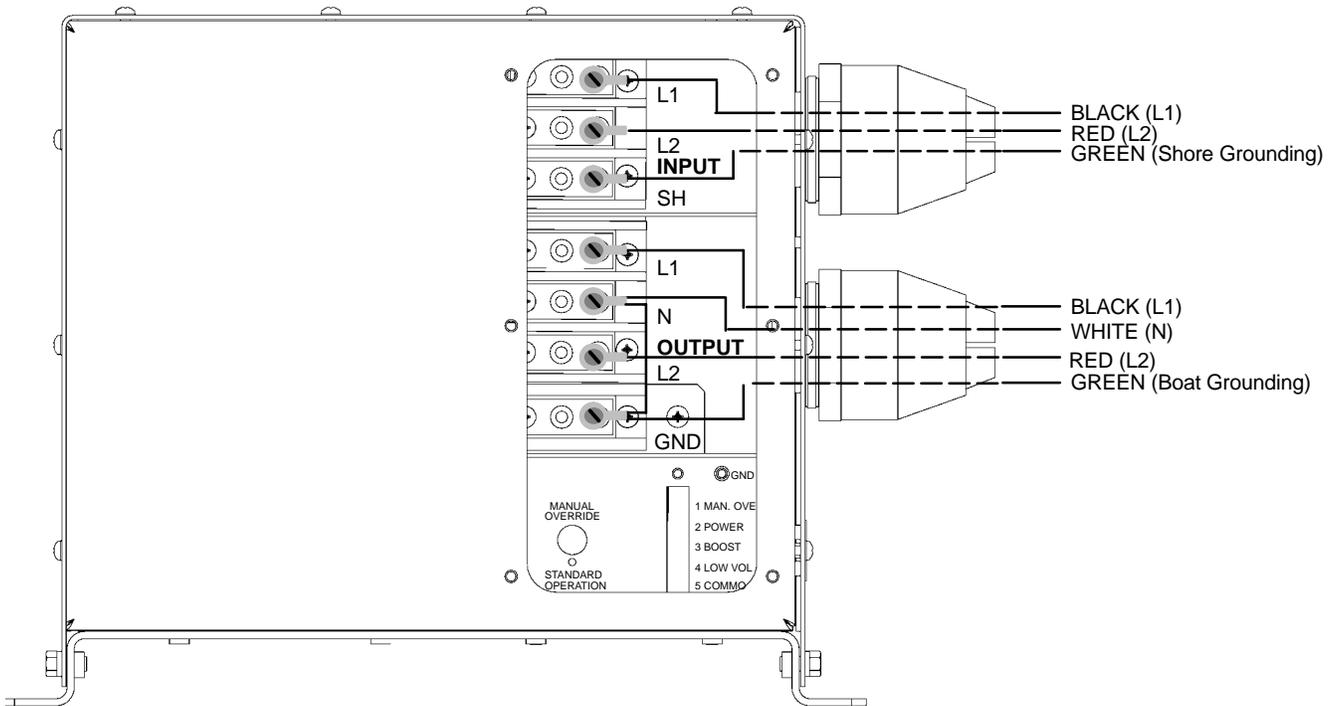
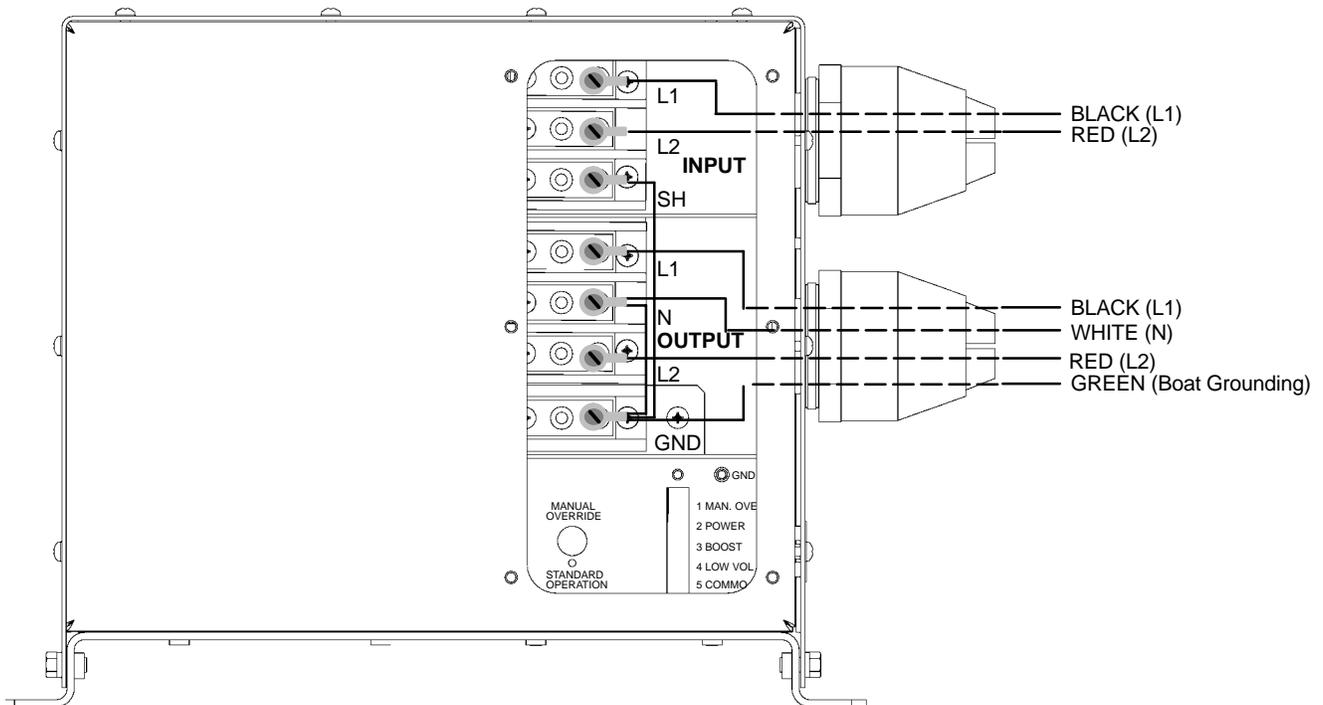
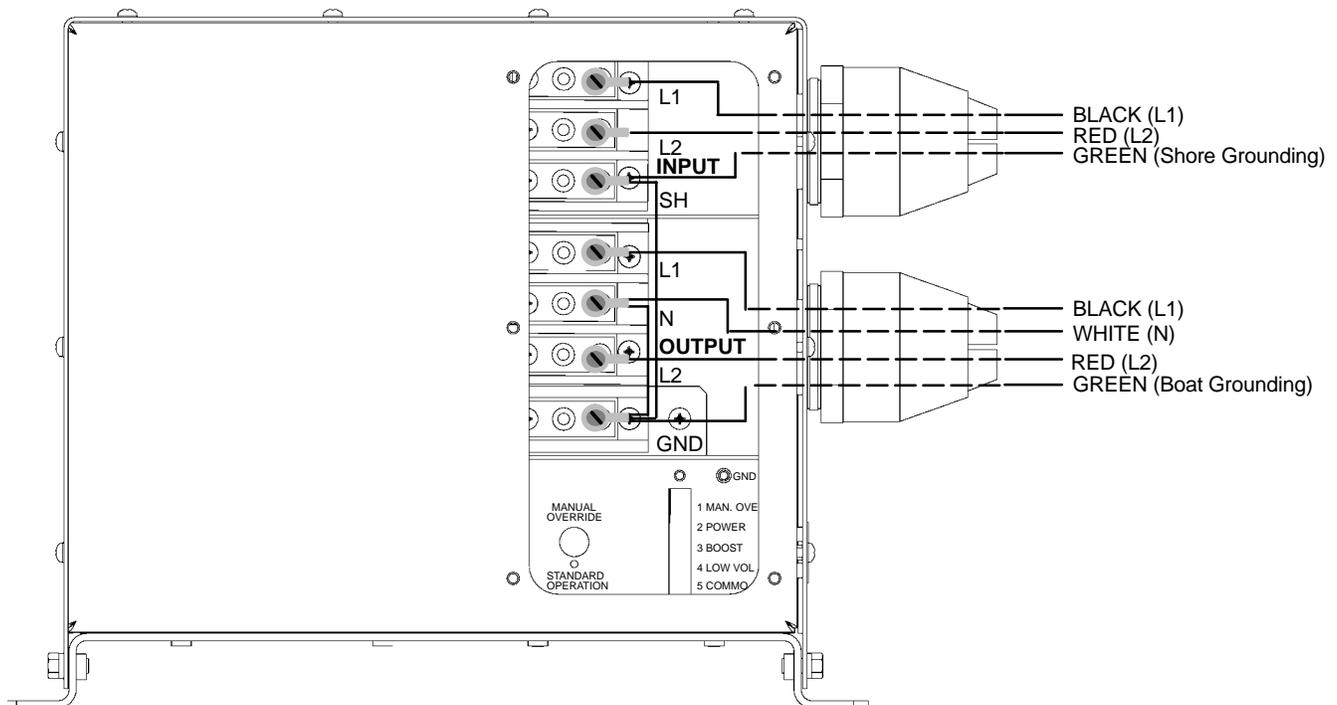

Figure 5. Typical Wiring as an Isolation Transformer – Method 1 (see Figure 1 for Electrical Diagram)
Figure 6. Typical Wiring as an Isolation Transformer with Primary Ground Fault Protector – Method 2 (see Figure 2 for Electrical Diagram)
Figure 7. Typical Wiring as a Polarization Transformer – Method 3 (see Figure 3 for Electrical Diagram)
8.	Connect all wiring as shown in Figure 5, Figure 6 or Figure 7 based on the chosen wiring method.